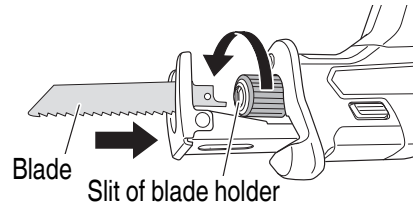

Fig. 8
- (1) Turning the blade holder in the direction indicated by the arrow, insert the blade all the way into the small slit of the blade holder. (Fig. 8)
- (2) The blade will be locked in place when the blade holder is released.